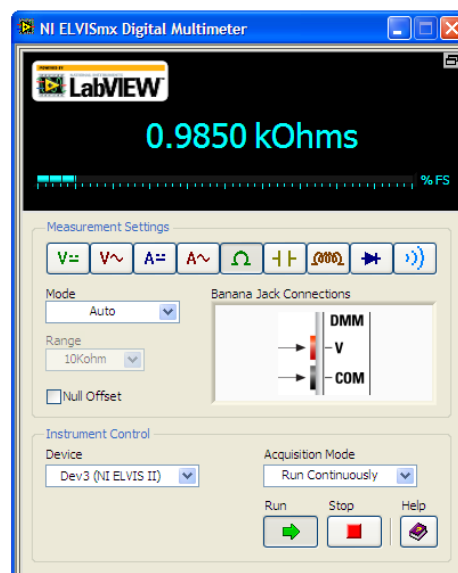

Fig. 9. Digital Multimeter SFP indicating the resistor's value
- Click the Ohm button to use the Digital Voltmeter function (DMM-Ohm) to measure the value of the resistor. If the Function Generator is in manual mode, the resistance and capacitance buttons are disabled. In order to control these buttons using the SFP, ensure that the manual mode is turned off on the workstation. Once the measurement is successful the output should appear as shown in Fig. 9. You have now successfully used the resistor ohm-meter with the NI Elvis SFP.